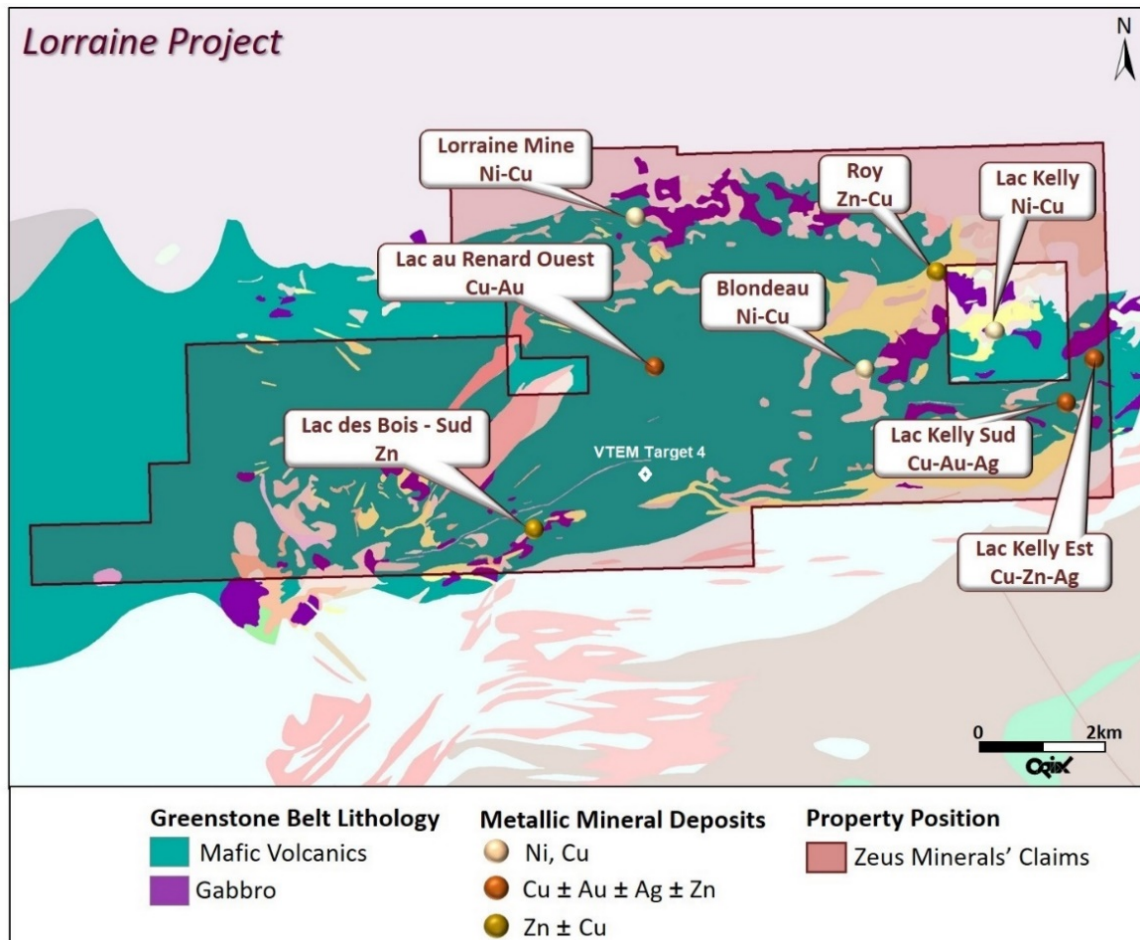

Figure 6: Lorraine Project Regional Geology – New claim area west of Lac des Bois S Zinc Prospect
- The Company has been granted 35 Claims contiguous to the west of the Lorraine Project area in proximity to the Target 4 gold intercept to cover the banded iron host formation along strike to the west, Figure 6.
The review will also target areas of moderate conductance associated with the VTEM survey data that may be associated with disseminated sulphide mineralisation such as that known from historic drilling (1950s-1990s) at the Blondeau Ni-Cu prospect Figure 6.